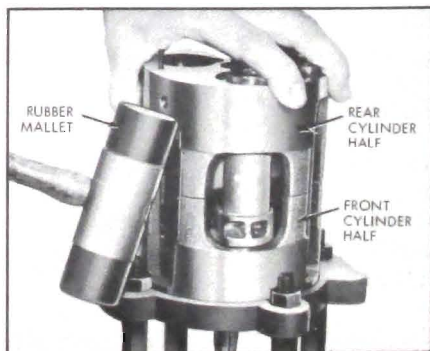

Figure 11-121—Separating Cylinder Halves
5. Separate front and rear cylinder halves, using a wood block or rubber mallet. See Figure 11-121. Rotate swash plate so that discharge tube does not contact it. A 9/16" open end wrench may be used on the shaft seal area of shaft to rotate swash plate.